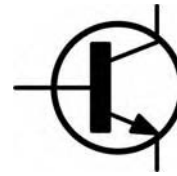

Figure 6.145
35. The device shown in Figure 6.145 is: [B1, B2]